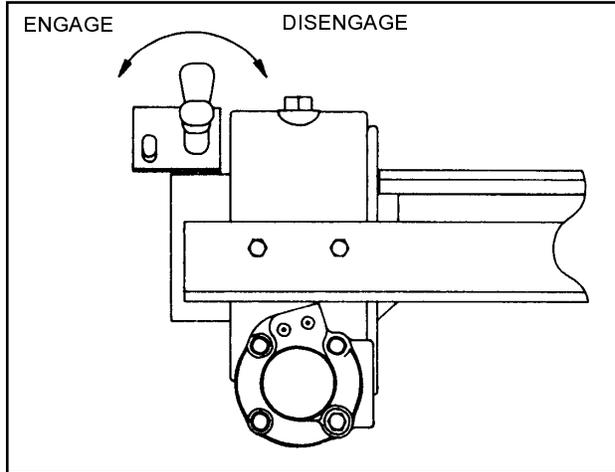

Figure 3-4 20,000# Winch Clutch
b. The **20,000 lb WINCH CLUTCH HANDLE** has two positions. (See Figure 3-4).